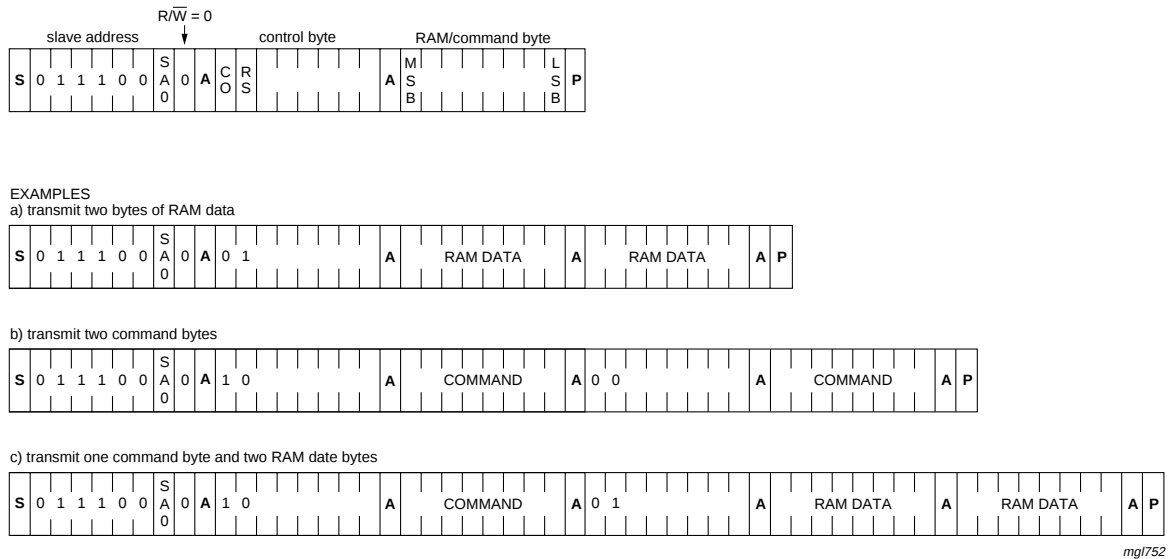

Fig 17. I²C-bus protocol
The I²C-bus protocol is shown in Figure 17. The sequence is initiated with a START condition (S) from the I²C-bus master which is followed by one of the available PCF8534A slave addresses. All PCF8534As with the same SA0 level acknowledge in parallel to the slave address. All PCF8534As with the alternative SA0 level ignore the whole I²C-bus transfer.